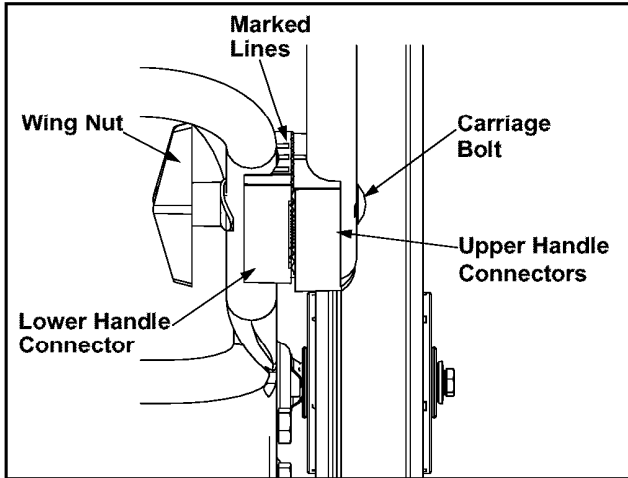

Figure 5
- The lower handle connector has three marked lines on the top and the upper handle connector has one marked line. See Figure 5.
- Secure the handle connectors in position by tightening each wing nut (carriage bolts must be seated properly into the handle and grooves must line up between connectors). Also make certain the bottom tip of the upper handle connector is in front of the bottom tip of lower handle connector. See Figure 5.